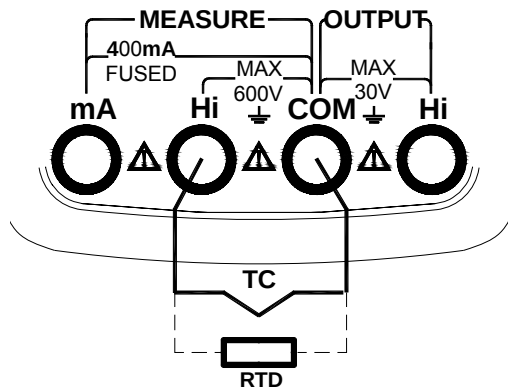

Figure 7.TC, RTD Measurement
1. Insert the one end of the test lead into the **Hi** (MEASURE) and **COM** jack and connect the other end to the TC output, as shown in the Figure 7:
1. Insert the one end of the test lead into the **Hi** (MEASURE) jack and **COM** jack and connect the other end to the RTD output, as shown in the Figure 7: